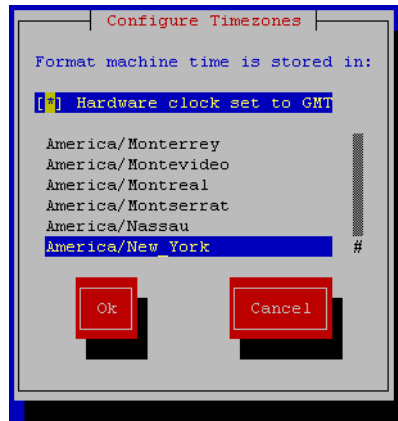

FIG. 28 Date, Time, Locale - Configure Timezones
1. The first screen to appear is the *Configure Timezones* screen (FIG. 28).